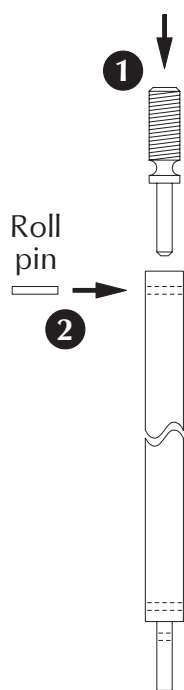

Figure 9-4
9.4. Assemble rod extension rod (Figure 9-4).